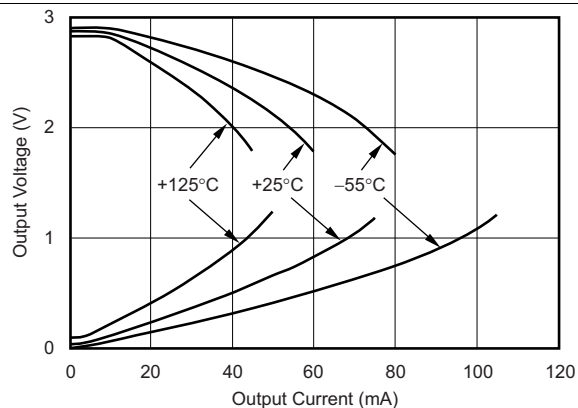
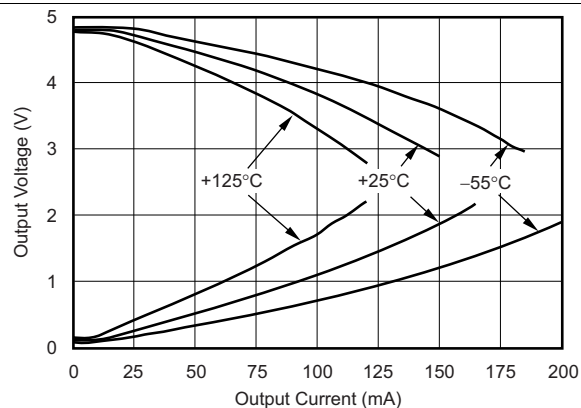
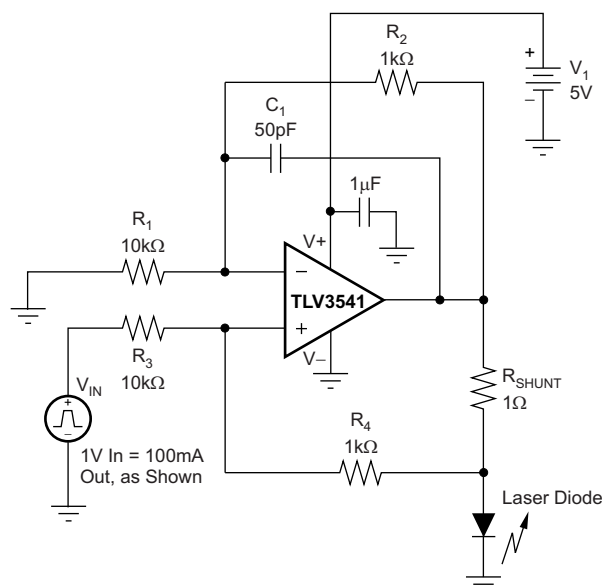
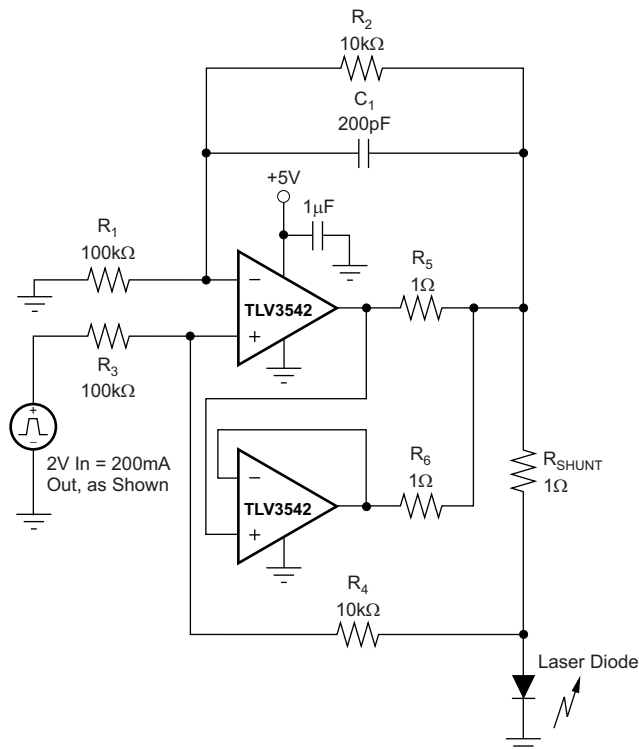

Figure 14. Output Voltage Swing vs Output Current for $V_S = 3\text{ V}$
Figure 15. Output Voltage Swing vs Output Current for $V_S = 5\text{ V}$
Figure 21. Laser Diode Driver
Figure 22. Parallel Operation
(1) See typical characteristic curves, *Output Voltage Swing vs Output Current* (Figure 14 and Figure 15).
(2) Specified by design.
(3) Operating in this temperature range will not damage the part. However, degraded performance may be observed.
A class AB output stage with common-source transistors is used to achieve rail-to-rail output. For high-impedance loads ($> 200 \Omega$), the output voltage swing is typically 100 mV from the supply rails. With 10- Ω loads, a useful output swing can be achieved while maintaining high open-loop gain. See the typical characteristic curves, *Output Voltage Swing vs Output Current* (Figure 14 and Figure 15).
The TLV354x output stage can supply a continuous output current of ± 100 mA and yet provide approximately 2.7 V of output swing on a 5-V supply, as shown in Figure 21. For maximum reliability, it is not recommended to run a continuous DC current in excess of ± 100 mA. Refer to the typical characteristic curves, *Output Voltage Swing vs Output Current* (Figure 14 and Figure 15). For supplying continuous output currents greater than ± 100 mA, the TLV354x may be operated in parallel, as shown in Figure 22.